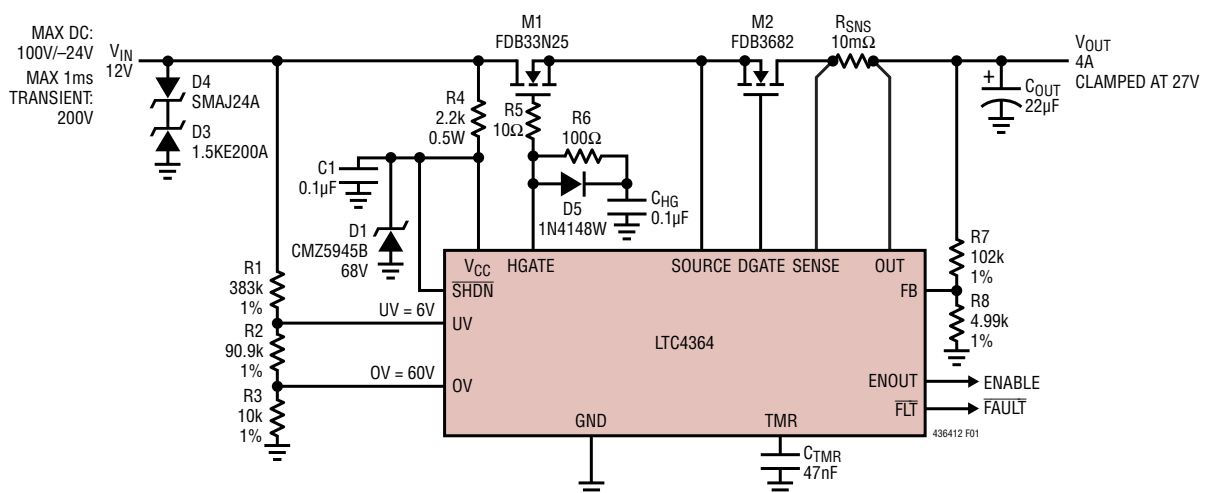
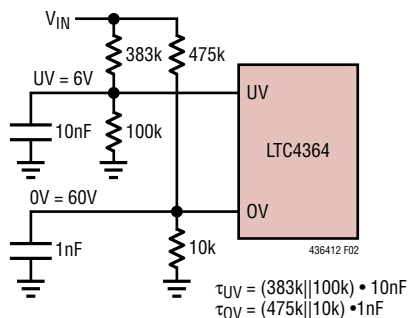
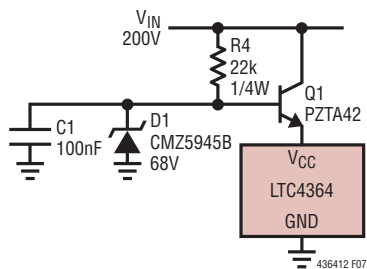

Figure 1. 4A, 12V Overvoltage Output Regulator with Reverse Current Protection
Figure 2. External UV and OV Configuration Blocks Start-Up Into an Overvoltage Condition
Figure 7. Buffering  $V_{CC}$  to Extend Input Supply Range
**$\Delta V_{HGATE}$  vs  $V_{IN}$  in Figure 1**
**$\Delta V_{DGATE}$  vs  $V_{IN}$  in Figure 1**
The LTC4364 drives an N-channel MOSFET (M1) at the HGATE pin to limit the voltage and current to the load circuitry during supply transients or overcurrent events. The selection of M1 is critical for this application. It must stay on and provide a low impedance path from the input supply to the load during normal operation and then dissipate power during overvoltage or overcurrent conditions. The LTC4364 also drives a second N-channel MOSFET (M2) at the DGATE pin as an ideal diode to protect the load from damage during reverse polarity input conditions, and to block reverse current flow in the event the input collapses. A typical application circuit using the LTC4364 to regulate the output at 27V during input surges with reverse input protection is shown in Figure 1.
Input overvoltage is detected with the OV pin and an external resistive divider connected to the input (Figure 1). At power-up, if the OV pin voltage is higher than its 1.25V threshold before the 100 $\mu\text{s}$  internal power-on-reset expires, or before the input undervoltage condition is cleared at the UV pin, the HGATE pin will be held low until the OV pin voltage drops below its threshold. To prevent start-up in the event the board is hot swapped into an overvoltage supply, separate resistive dividers with filtering capacitors can be used for the OV and UV pins (Figure 2). The RC constants should be skewed so that  $\tau_{\text{UV}}/\tau_{\text{OV}} > 50$ . In Figure 2, If the board is plugged into a supply that is higher than 60V, the LTC4364 will not turn on the pass devices until the supply voltage drops below 60V.
The LTC4364 detects input undervoltage conditions such as low battery using the UV pin. When the voltage at the UV pin is below its 1.25V threshold, the HGATE pin pulls low to keep the pass device off. Once the UV pin voltage rises above the UV threshold plus the UV hysteresis (50mV typical), the HGATE pin is allowed to pull up without going through a timer cycle. In Figure 1 and Figure 2, the input UV threshold is set by the resistive dividers to 6V. An undervoltage condition does not produce an output at the  $\overline{\text{FLT}}$  pin.
The LTC4364 drives two N-channel MOSFETs, M1 and M2, as the pass devices to conduct the load current (Figure 1). The important features are on-resistance,  $R_{\text{DS(ON)}}$ , the maximum drain-source voltage,  $V_{(\text{BR})\text{DSS}}$ , the threshold voltage, and the safe operating area, SOA.
The added gate capacitor slows down the turn-off time during fault conditions and allows higher peak currents to build up during an output short event. If this is a concern, an extra resistor, R6, in series with  $C_{HG}$  can restore the turn-off time. A diode, D5, should be placed across R6 with the cathode connected to  $C_{HG}$  as shown in Figure 1. In a fast transient input step, D5 provides a bypass path to  $C_{HG}$  for the benefit of holding HGATE low and preventing self enhancement.
The LTC4364 is tested to operate to 80V and guaranteed to be safe from damage between 100V and  $-40V$ . Voltage transients above 100V or below  $-40V$  may cause permanent damage. During a short-circuit condition, the large change in current flowing through power supply traces coupled with parasitic inductances from associated wiring can cause destructive voltage transients in both positive and negative directions at the  $V_{CC}$ , SOURCE, and OUT pins. To reduce the voltage transients, minimize the power trace parasitic inductance by using short, wide traces. A small RC filter (R4 and C1 in Figure 1) at the  $V_{CC}$  pin filters high voltage spikes of short pulse width.
Another way to limit supply transients above 100V at the  $V_{CC}$  pin is to use a Zener diode and a resistor, D1 and R4, as shown in Figure 1. D1 clamps voltage spikes at the  $V_{CC}$  pin while R4 limits the current through D1 to a safe level during the surge. In the negative direction, D1 along with R4 clamps the  $V_{CC}$  pin near GND. The inclusion of R4 in series with the  $V_{CC}$  pin increases the minimum required supply voltage due to the extra voltage drop across the resistor, which is determined by the supply current of the LTC4364 and the leakage current of D1. 2.2k adds about 1V to the minimum operating voltage.
For sustained, elevated supply voltages, the power dissipation of R4 becomes unacceptable. This can be resolved by using an external NPN transistor (Q1 in Figure 7) as a buffer. To protect Q1 against supply reversal, block the collector of Q1 with a series diode or tie it to the cathode of D3 and D4 in Figure 1.
Transient suppressor D3 in Figure 1 clamps the input voltage to 200V for voltage transients higher than 200V, to prevent breakdown of M1. It also blocks forward conduction in D4. D4 limits the SOURCE pin voltage to 24V below GND when the input goes negative.  $C_{OUT}$  helps absorb the inductive energy at the output upon a sudden input short, protecting the OUT and SENSE pins.
The OUT and SENSE pins can withstand up to 100V above and 20V below GND. In all applications the output must be bypassed with at least 22 $\mu$ F low ESR electrolytic ( $C_{OUT}$  in Figure 1) to stabilize the voltage and current limiting loops, and to minimize capacitive feedthrough of input transients. Total ceramic bypassing of up to one-tenth the total electrolytic capacitance is permissible without compromising performance.